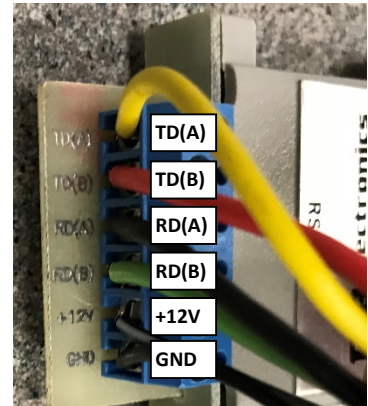
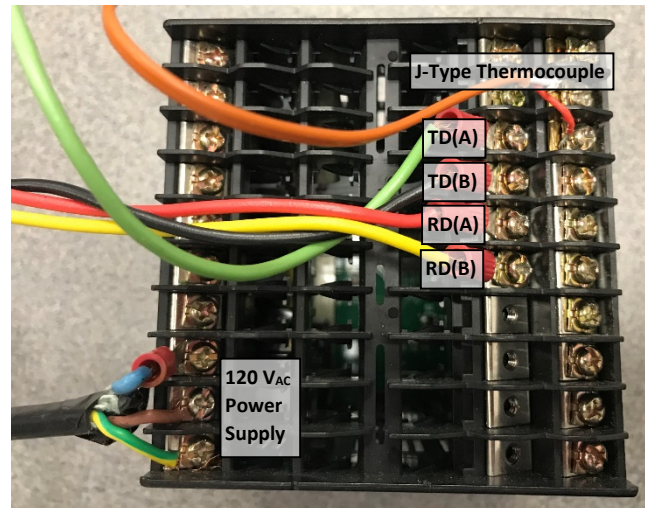

Figure 7.10: Wires connecting the Yokogawa UT-350 to the RS-422 to RS-232 Adapter
Figure 7.11: Yokogawa UT-350 Controller Wiring Backplane and Labels.
- 2) Connecting to the Yokogawa – This device doesn't require a Null Modem. However, as shown in (Figure 7.5f) adapters are needed to convert from RS-422 to RS-232 in order to use the USB to RS-232 adapter that was used in the previous examples to connect it to a computer. If the computer needs to be farther from the Yokogawa device a straight through DB9 serial cable can be used to connect between the USB to RS-232 converter and the DB9 to DB25 adapter (. Figure 7.10 shows a closer look at the 2 transmit lines (TD(A) and TD(B)) and the two receive lines (RD(A) and RD(B)) that make up this 4 wire device. Figure 7.11 shows the connections of these wires made to the Yokogawa and also a description of all of the terminals that can be used, including the thermocouple input. This device actually uses RS-485 protocol instead of RS-422, but the RS-422 to RS-232 adapter also worked. The RS-485 standard allows multiple units to share the data bus (in this case up to 31 Yokogawa UT-350 units) [31].